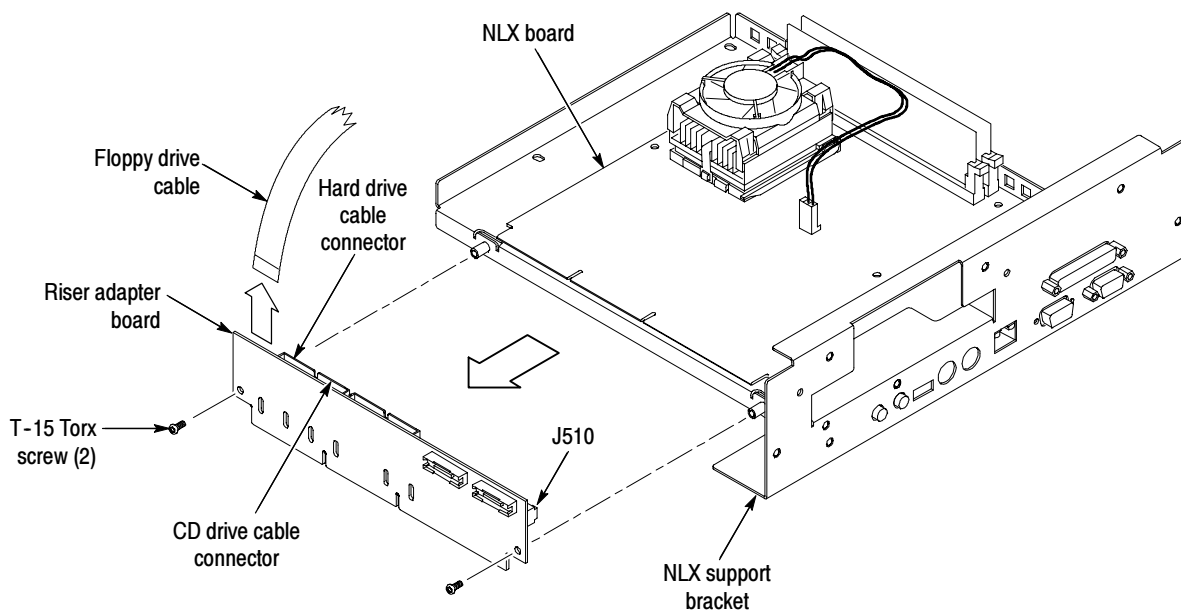

Figure 9: Riser adapter and NLX board removal
4. *Remove the Riser Adapter and NLX Boards:* See Figure 9 on page 18.